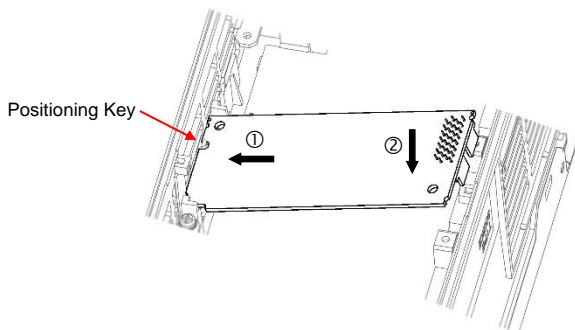

Figure 5: Mounting the Interface Card
2. Rest the left-hand side of the interface card on the control PCB's A-port mounting support. Align the positioning notch on the interface card with the A-port positioning key, and then slide the interface card to the left to engage the key into the notch. Refer to step ① in Figure 5.
3. Rotate the right-hand side of the interface card downward to engage connector CN1 (on the back of the interface card) into the A-port connector (CN4) on the inverter's control PCB. Ensure that the connectors are fully engaged. Refer to step ② in Figure 5.